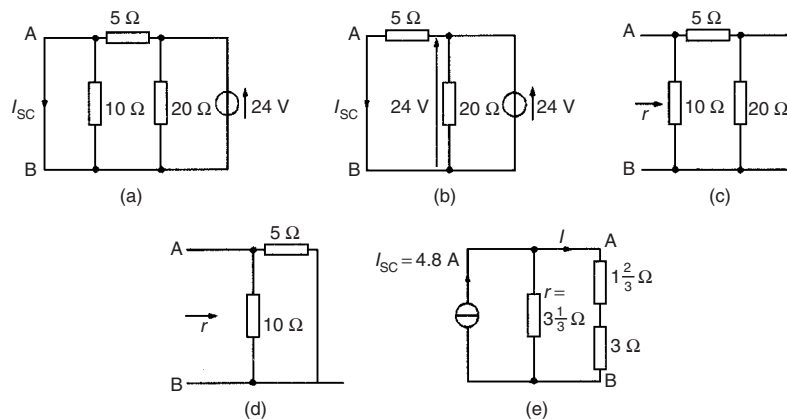

Figure 13.60
- (i) The branch containing the $3\ \Omega$ resistance is short-circuited as shown in Fig. 13.60(a)
- (ii) From the equivalent circuit shown in Fig. 13.60(b),
(iii) If the $24\ \text{V}$ source of e.m.f. is removed the resistance 'looking-in' at a break made between A and B is obtained from Fig. 13.60(c) and its equivalent circuit shown in Fig. 13.60(d) and is given by:
(iv) From the Norton equivalent network shown in Fig. 13.60(e) the current in the $3\ \Omega$ resistance is given by: